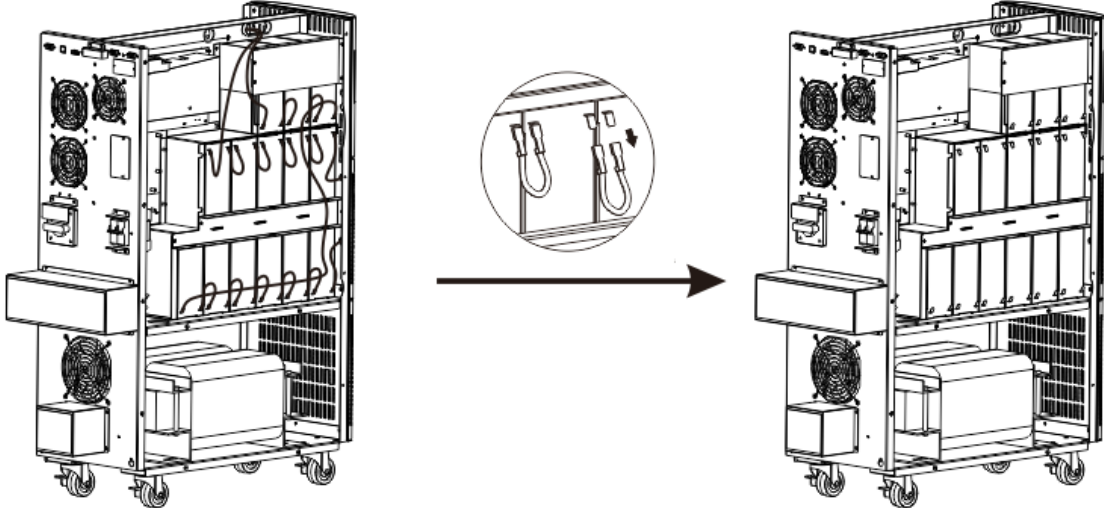

FIG. 2
- 10. Looking from the rear of the UPS on the right-hand side (**FIG. 2**), disconnect the battery positive (Red) wire. Place a piece of electrical tape over the end of battery positive (Red) wire.